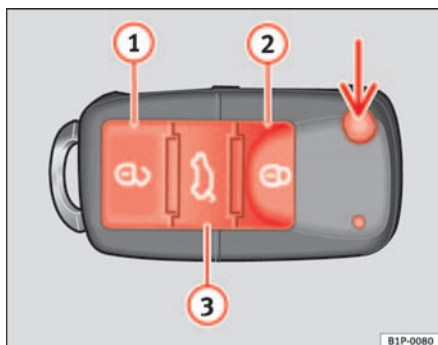

Fig. 64 Assignment of buttons on the remote control key
Using the button \Rightarrow fig. 64 (arrow) on the control, the key shaft is released.
Unlocking the vehicle \Rightarrow fig. 64 ① .
Locking the vehicle \Rightarrow fig. 64 ② .
Unlocking the tailgate. Press the button \Rightarrow fig. 64 ③ until all indicators on the vehicle briefly flash. When the unlocking button \Rightarrow fig. 64 ③ is pressed, 2 minutes remain for opening the door. Once this time has passed, it will lock once more.
Also, the battery indicator on the key \Rightarrow fig. 64, will flash.
When the button \Rightarrow fig. 64 ① is used the driver's door is unlocked, all others remain locked.
Press the button \Rightarrow fig. 64 ① twice to unlock all doors. ▶
- Lock the vehicle using the driver side door lock with the remote control key ⇒ page 99, fig. 64.